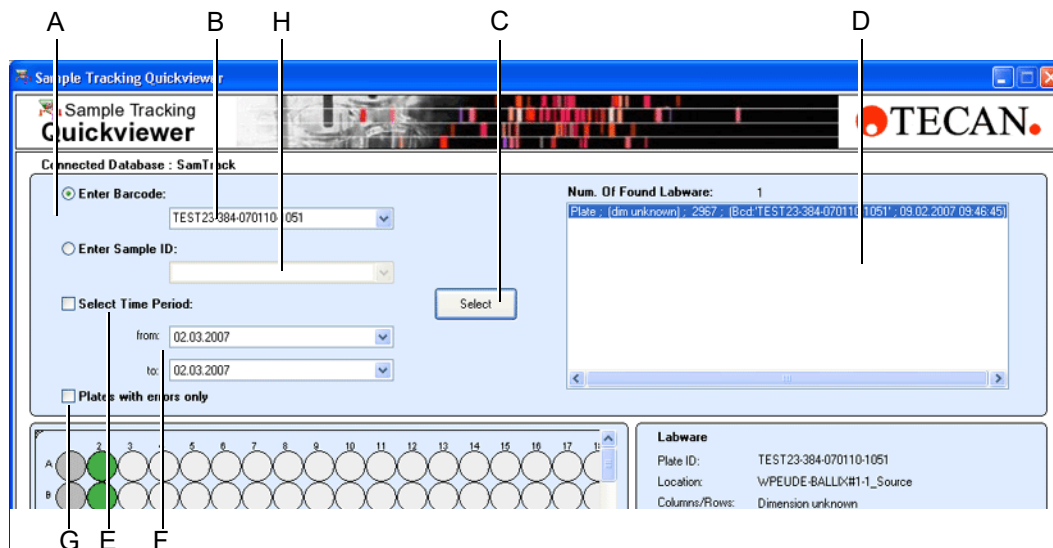
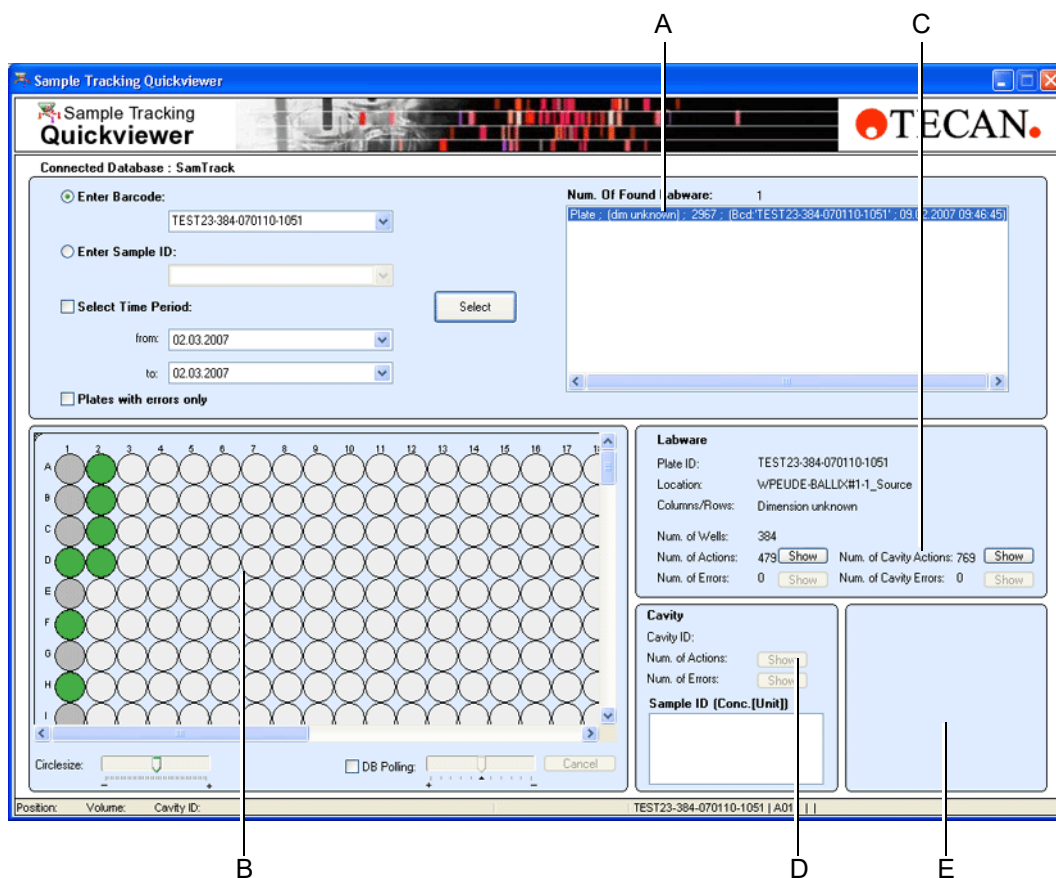

Fig. 8-7 Loading containers
Fig. 8-8 View plate details
- 1 Select the **Enter Barcode** option (A) Fig. 8-7, 8-6.
- 2 Edit the barcode number respectively asterisk * into the **Enter Barcode** gap (B) Fig. 8-7, 8-6.
- 3 Tick the check box **Select Time period** (E) and edit the dates (F) of the filter period Fig. 8-7, 8-6.
- 4 Tick the check box **Plates with errors only** (G) to list plates with errors Fig. 8-7, 8-6.
- 5 Click **Select** (C) to display containers Fig. 8-7, 8-6.
A list of matching main containers is displayed in the found container listing (D) Fig. 8-7, 8-6.
- 1 Select the **Enter Sample ID** option (A) Fig. 8-7, 8-6.
- 2 Edit the sample ID respectively asterisk * into **Enter Sample ID** gap (B) Fig. 8-7, 8-6.
- 4 Tick the check box **Plates with errors only** (G) to list plates with errors.
- 1 To view the labware actions taken place on the selected plate click **Show Actions (C)** Fig. 8-8, 8-7.
- 1 To view cavity actions taken place on the selected plate click **Plate Actions (D)** Fig. 8-8, 8-7.
- 1 Click on the appropriate well of the plate illustration (B) Fig. 8-8, Fig. 8-7.
The well selected is shown in the Cavity Detail View position section (E) Fig. 8-8, Fig. 8-7.
- 2 To view the actions taken place on the selected plate click **Show Actions** (C) Fig. 8-8, Fig. 8-7.